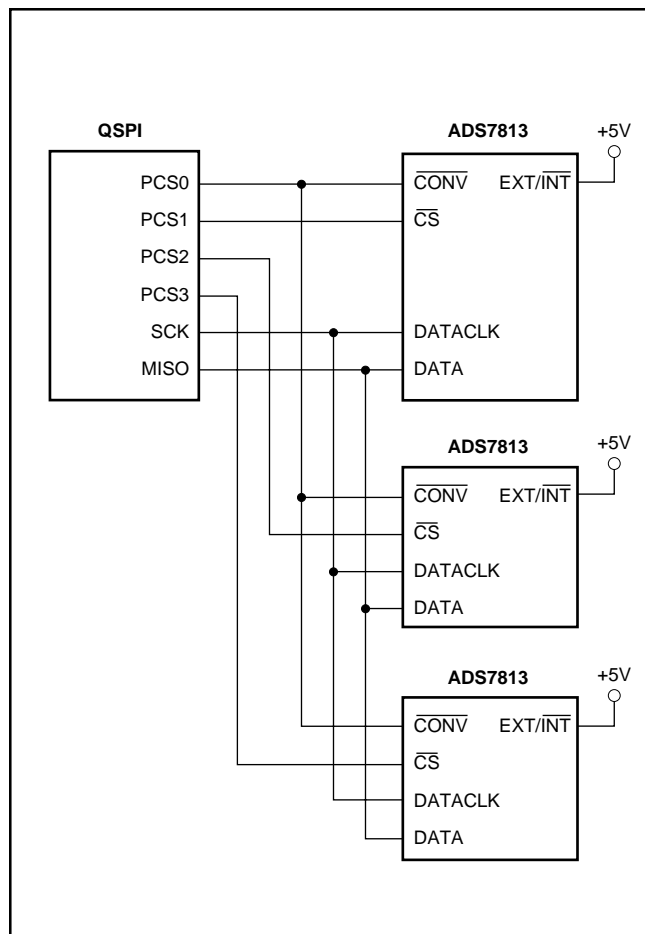

FIGURE 16. QSPI Interface to Three ADS7813s.
Figure 16 shows a QSPI-equipped microcontroller interfacing to three ADS7813s. There are many possible variations to this interface scheme. As shown, the QSPI port produces a common $\overline{\text{CONV}}$ signal which initiates a conversion on all three converters. After the conversions are finished, each result is transferred in turn. The QSPI port is completely programmable to handle the timing and transfers without processor intervention. If the $\overline{\text{CONV}}$ signal is generated in this way, it should be possible to make both AC and DC measurements with the ADS7813, as the $\overline{\text{CONV}}$ signal will have low jitter. Note that if the $\overline{\text{CONV}}$ signal is generated via software commands, it will have a good deal of jitter and only low frequency (DC) measurements can be made.